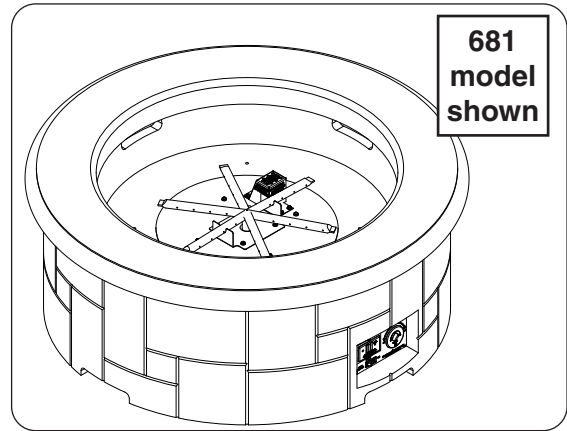

Fig. 26-1 Place unit
1. **CAREFULLY** place unit in an appropriate location (see Fig. 26-1, and refer back to the LOCATION section if needed).